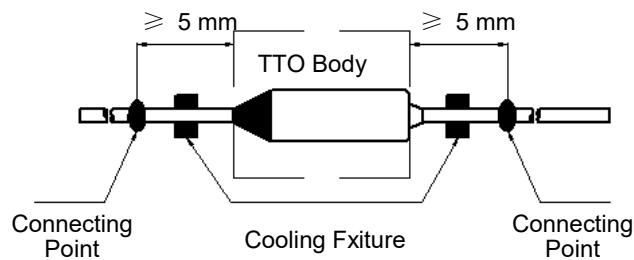

FIGURE 2
2. The connection point of the lead shall be greater than 5 mm away from the TTO body (See Fig. 2) .
3. In the process of soldering, cooling fixture shall be used between soldering point and TTO body (see Fig.2).
2. In the process of welding, cooling fixture should be used between welding point and TTO body (See Fig.2).